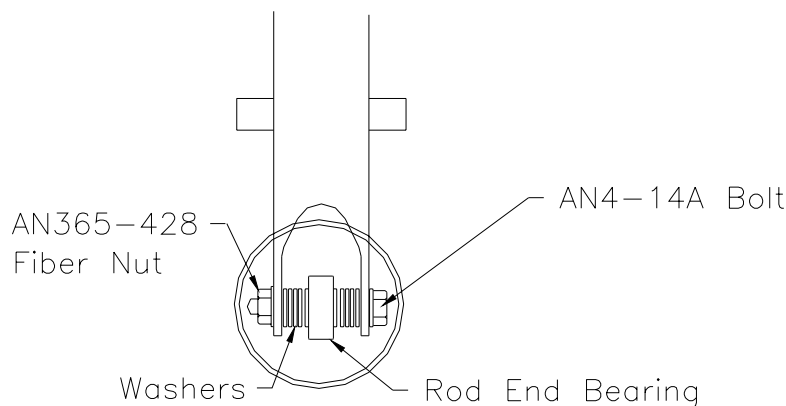

Figure 20.3.7
8) Attach one end of the connector tube to the passenger stick assembly. Use AN960-416 washers to take up the excess space. Figure 20.3.7.